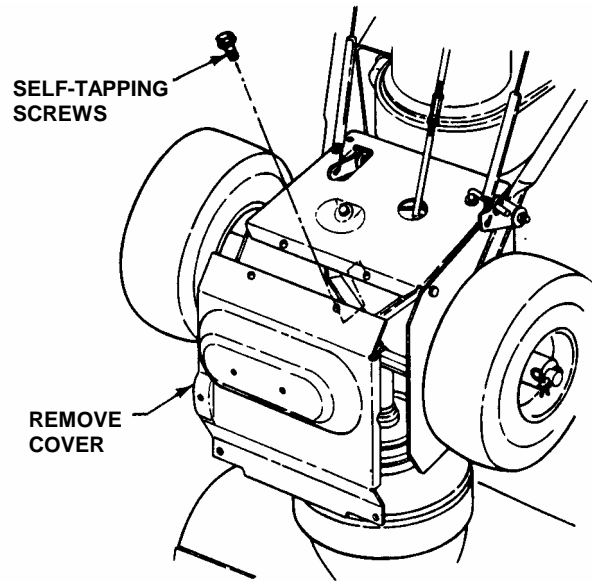

FIGURE 4.7
6. Tilt machine forward to gain access to drive system area. Secure machine in the tilted position to prevent tipping over. Remove drive system cover plate. See Figure 4.7.